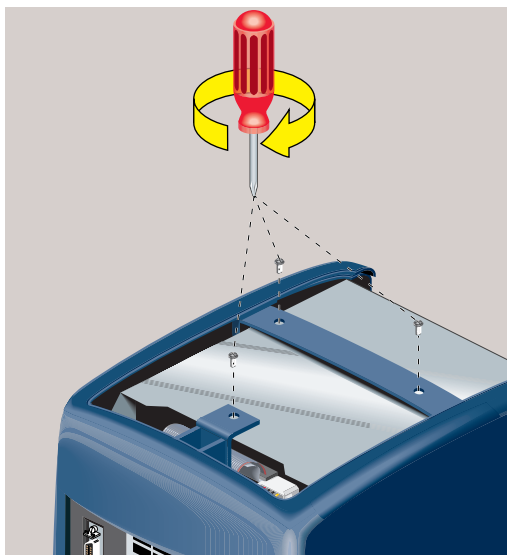

Figure 5-57 Securing the Outer Cover
16. Insert and tighten the three screws that secure the outer cover (Figure 5-57).